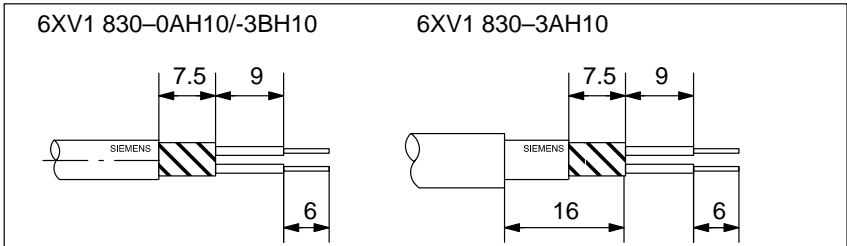

Figure 3-12 Preparing the LAN Cable for Connecting the Bus Connector 6ES7 972-0B.10-0XA0
2. Strip the insulation from the bus cable as shown in Figure 3-12.